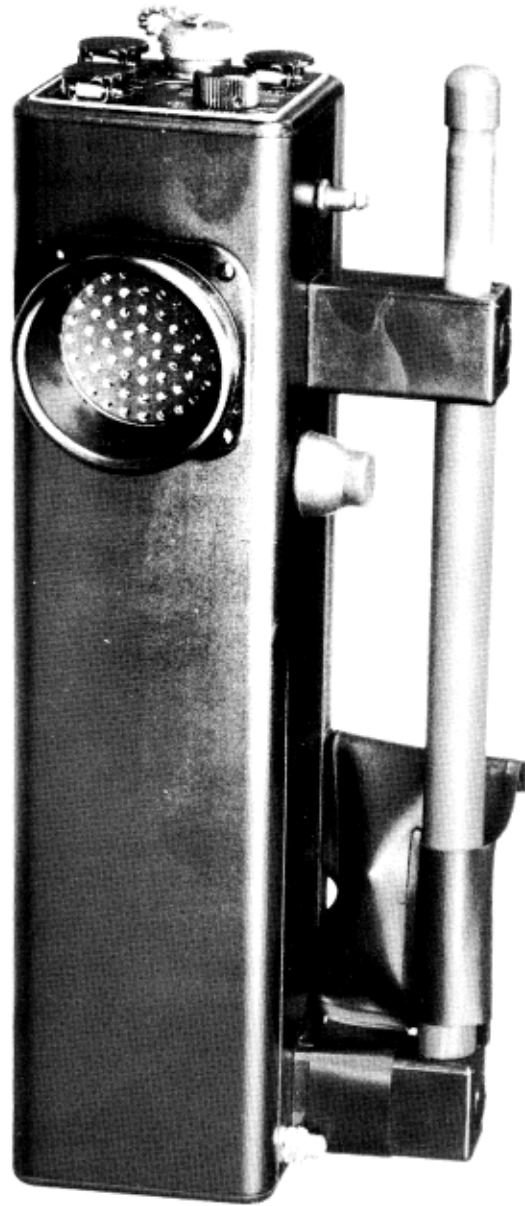

Figure 1. Model HT-1A Transceiver
6. The Model HT-1A Transceiver, shown in figure 1, is compact, lightweight, and rugged in construction. The sealed case prevents moisture damage to the equipment. No external connections are necessary to the equipment for normal field operation. However, when desired, connections for external antenna, headset, and external 12-volt DC supply are made at the top of the unit to the jacks provided. The Transceiver is equipped with hand and shoulder carrying straps. The unit is approximately 11-1/2 inches high, by 2-3/4 inches square excluding the telescoping antenna at the side. The antenna, when extended is approximately 74 inches in length. Weight of the unit is approximately 4-1/2 pounds, including batteries.